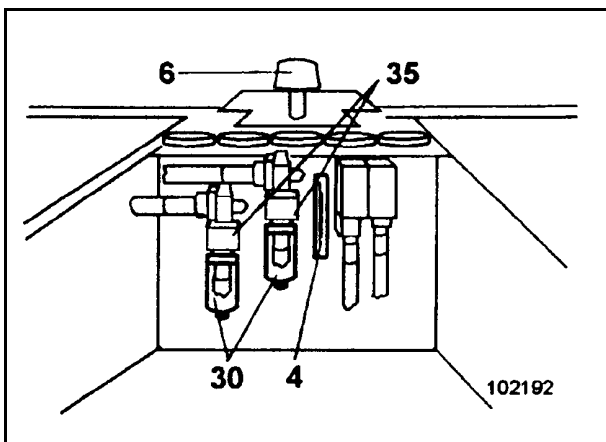

Fig. 3-62:
To filter the hydraulic oil on the high-pressure side of the working hydraulic system, the machine is equipped with two high-pressure filters (30, Fig. 3-62:).
- Unscrew filter housing (31, Fig. 3-62:) and pour out the oil.
- Withdraw filter element (32) from housing (31).